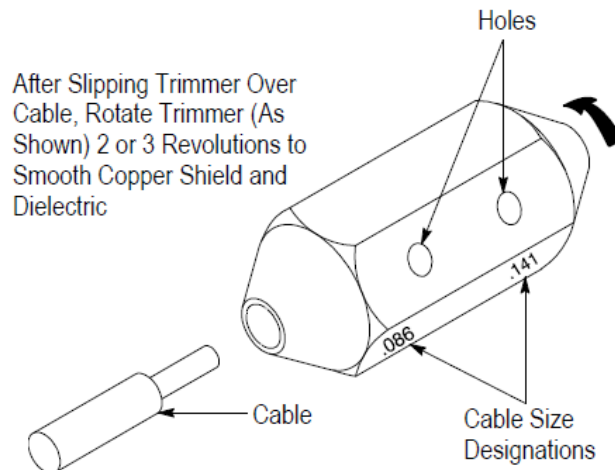

Figure 6
1. Slip the correct end of the trimmer tool over the exposed cable end (see Figure 6).